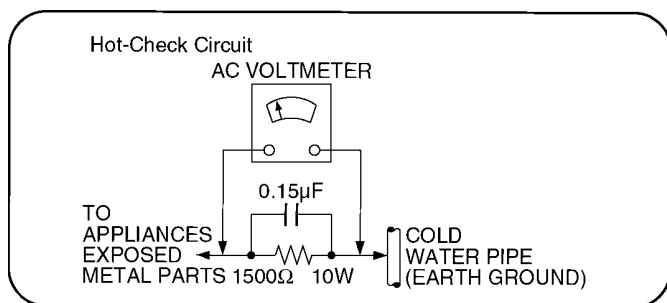

Figure 1
### 1.1.2. Leakage current hot check (See Figure 1 .)
2. Connect a  $1.5k\Omega$ , 10 watts resistor, in parallel with a  $0.15\mu F$  capacitors, between each exposed metallic part on the set and a good earth ground such as a water pipe, as shown in Figure 1.